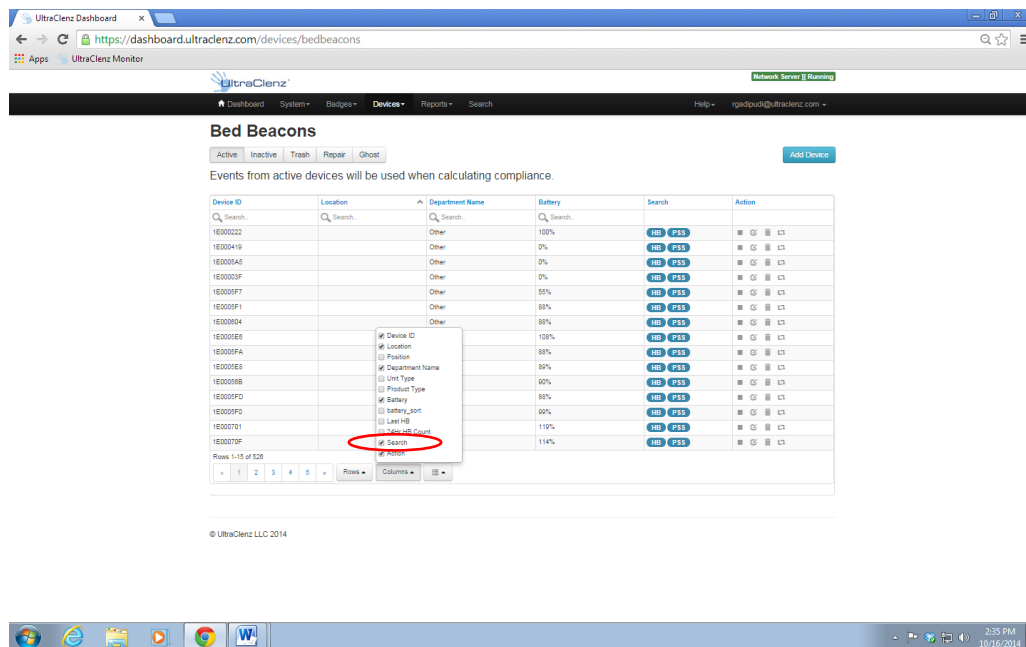

Figure 15. Choose the Search for Bed Beacon
7. Check the box Search choice as shown in *Figure 15*.